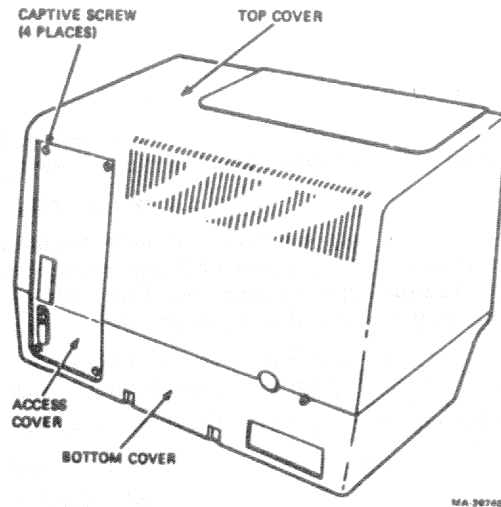

Figure 5-2 VT100 Rear View
6. With a screwdriver loosen the four captive screws holding the access cover (Figure 5-2).